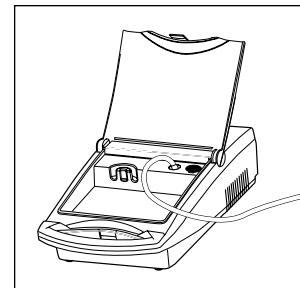
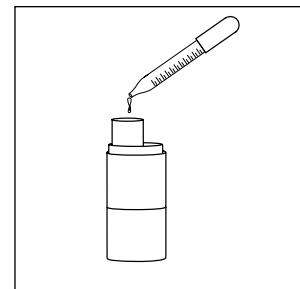

Figure 3
Figure 4
5. Connect one end of the nebulizer tubing to the compressor air-outlet connector (**Fig. 3**).
**NOTE-** During high-humidity weather conditions, condensation (water build up) can occur in the internal hose of the compressor. It is recommended that the compressor be turned on and allowed to run for two (2) minutes before the tubing is attached to the air-outlet connector.
6. Assemble clean nebulizer parts by placing baffle down in medication cup. Holding cup stationary, screw on nebulizer cap. Add prescribed medication through the opening on cap using a medicine dropper or pre-measured dose container (**Fig. 4**).